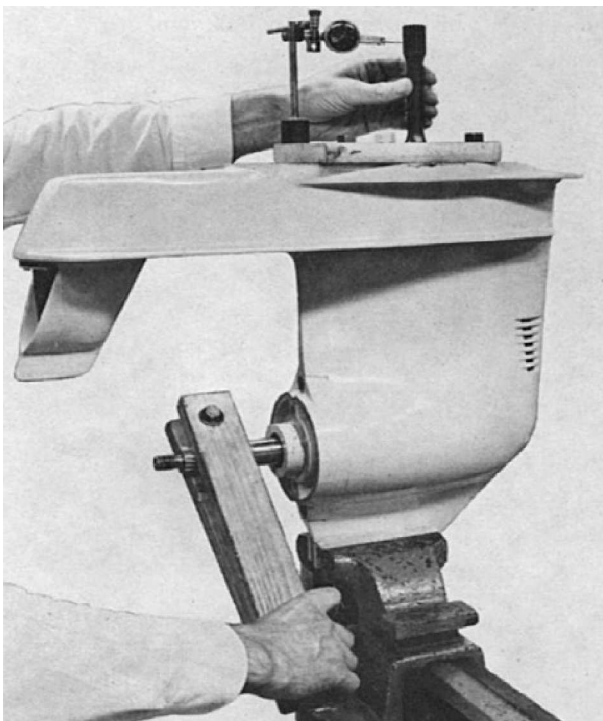
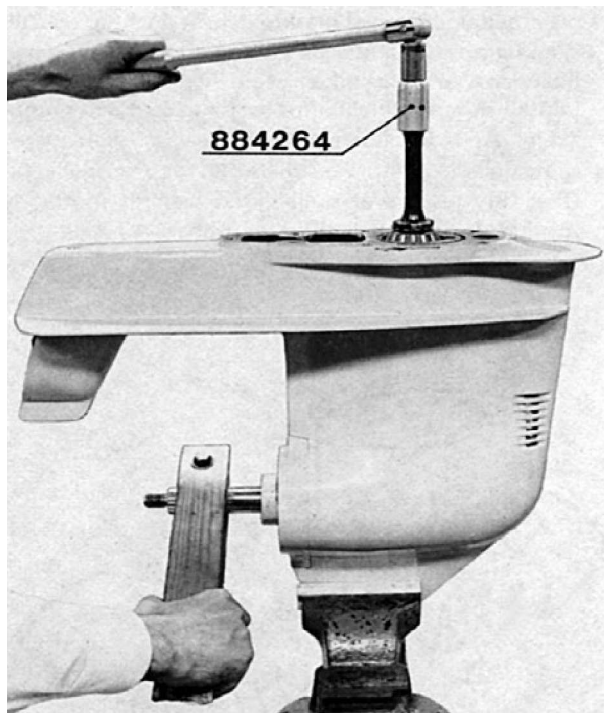

Fig. 37.
Fig. 39.
3. Check the backlash, which is measured directly on the vertical drive shaft splines. Here the clearance should be 0.06–0.10 mm (0.0023–0.0040"), which gives a backlash of 0.15–0.25 mm (0.006–0.010") on the gears. See Fig. 37. If the backlash does not agree, adjust it as follows.
**If method I, page 16, has been chosen:** Should the clearance be too small, increase the thickness of shims under the ball bearing (9), and if it is excessive, reduce the shim thickness.
**If method II, page 16, has been chosen:** Should the clearance be too small, reduce the thickness of shims in the propeller bearing housing (3) and if it is excessive, increase the shim thickness.
7. Fit tool 884264 on the end of the splines and rotate the shaft in its proper direction of rotation, clockwise for a left-hand threaded propeller and anti-clockwise for a right-hand threaded propeller, while braking the propeller shaft hard at the same time. See Fig. 39.